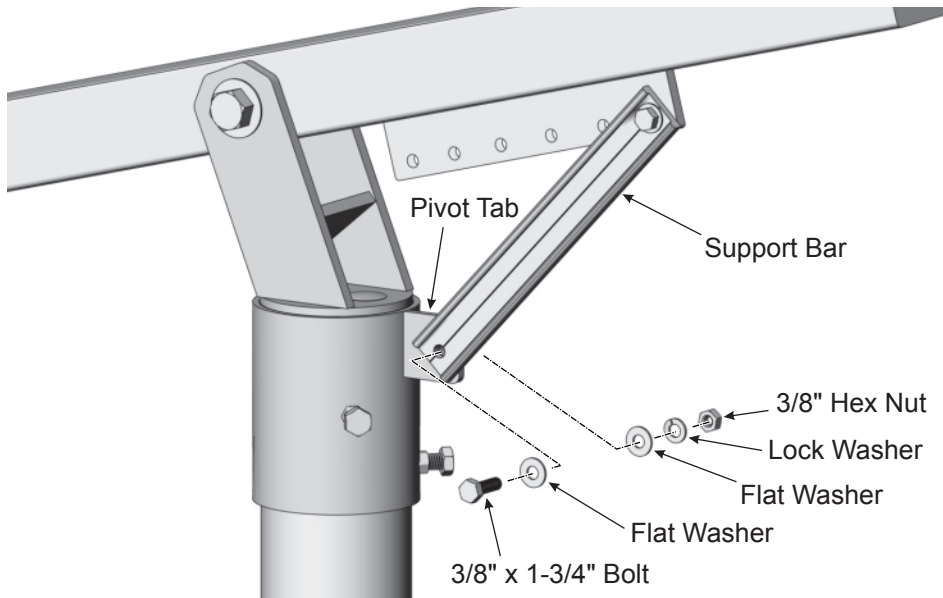

Figure 4-3: Positioning Support Bar
- F. Pivot the Strongback and the Support Bar to align the mounting holes of the Support Bar with its Pivot Tab on the Mounting Sleeve. Slide the Support Bar over the Pivot Tab. Insert the 3/8" x 1-3/4" bolt and one flat washer through the Support Bar and Mounting Tab and secure it with the remaining flat washer, lock washer and hex nut. Torque hardware on both ends of Support Bar at 32-34 ft./lbs. (See Figure 4-3)